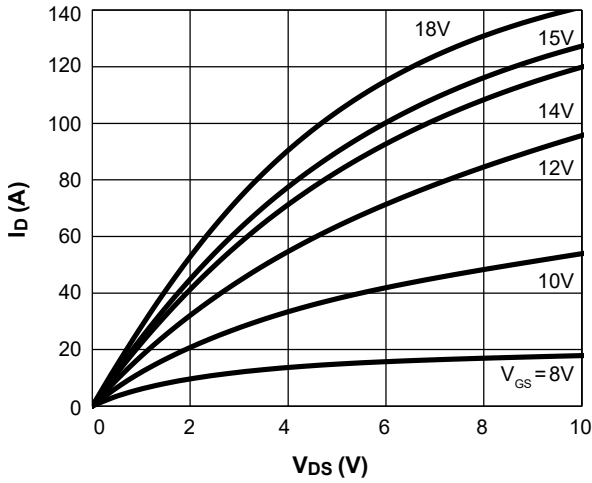

Figure 1. On-Region Characteristics TJ = 25°C
- J. The static characteristics in Figures 1 to 8 are obtained using <300 ms pulses, duty cycle 0.5% max.